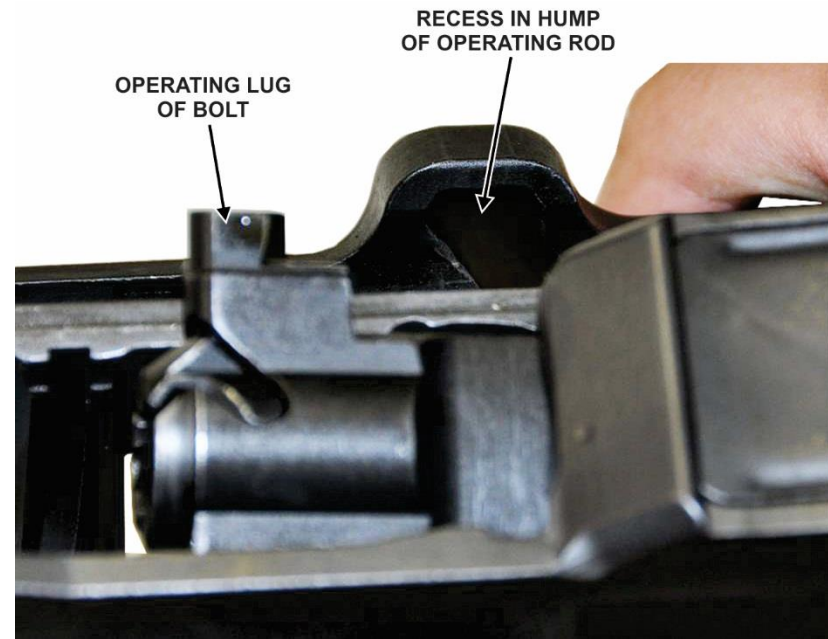

Figure 39. Recess in the hump and operating lug of bolt
- 9) Rotate the weapon upright and align the operating rod so that the recess in the hump fits over the operating lug of the bolt (figs 39 and 40). Move the operating rod fully rearward and then forward until the bolt is closed.